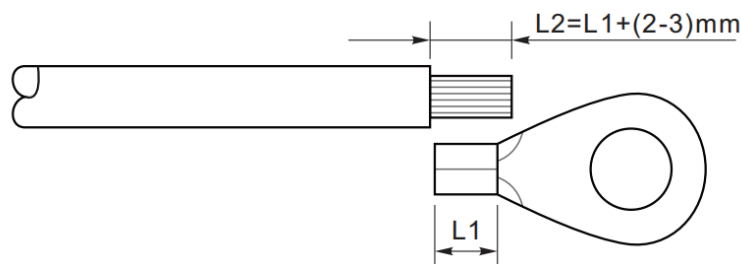

Figure 5–2 Grounding connection instruction (1)
Step 1: Remove the insulation layer with an appropriate length using a wire stripper shown as figure 5–2.